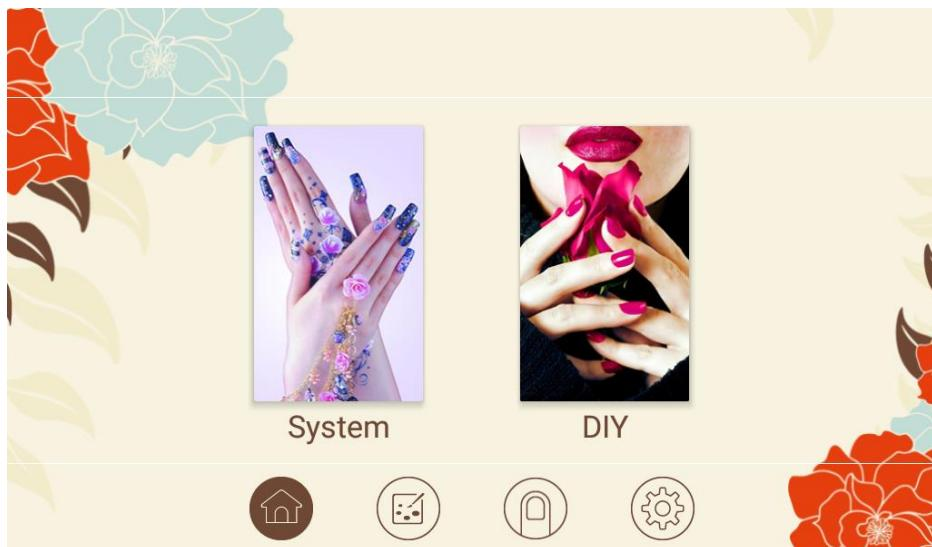

Figure 1
(1) start the software and enter the homepage, as shown in the following figure 1: file ‘System’ contains gallery of the system while file ‘DIY’ contains customized gallery.